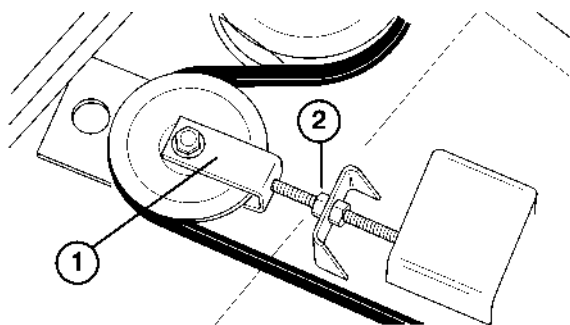

Figure 64
3. To adjust, loosen the jam nuts (Fig. 64) and extend the tension arm until the shoulder bolt flanges are within 3 mm of the pulley end of the slots (Fig. 63).
2. Loosen the jam nuts securing the tension plate until the compression spring on the idler assembly is relaxed (Fig. 64).
2. Remove the deck covers and relieve belt tension on all belts (Fig. 64).